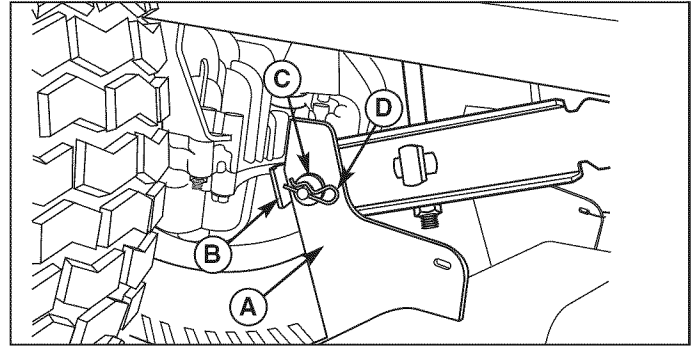

Figure 14. Lift Arms
4. Remove hair pin (D, Figure 14) and washer (C). Disconnect the mower lift plates (A) from the tractor lift arms (B). Reinstall washers (C) and hair pins (D) to prevent loss.
4. Reinstall hair pins (D, Figure 14) and washers (C) into the mower lift plates (A) and the tractor lift arms (B).